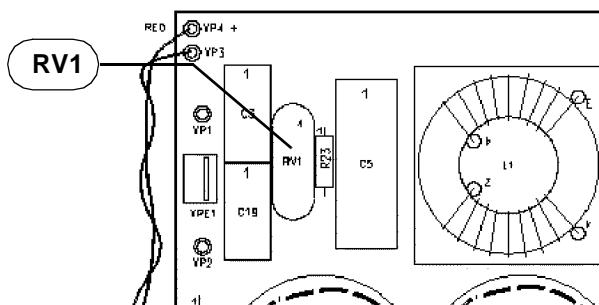

FIG. 1 REF. 1
- Check the general conditions of the electronic circuit ref. 1, particularly:
- the varistor (RV1) (fig. 1) if it presents bursting marks